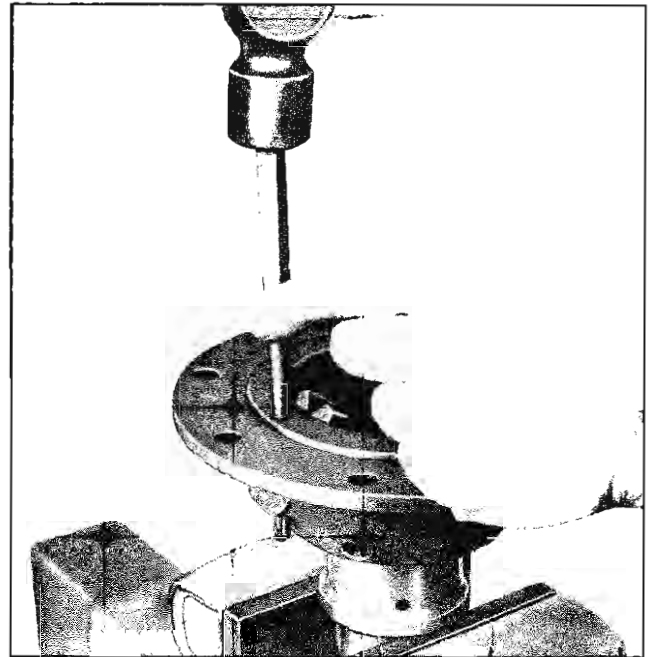

Fig. 4-34 Removing Roll Pin
8. Drive out roll pin which retains cross shaft (Fig. 4-34).